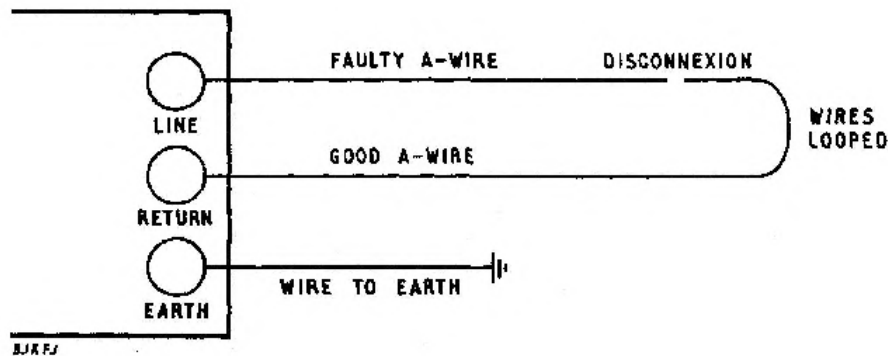

FIG 10 - DISCONNEXION ON ONE WIRE ONLY (NO SPARE PAIR AVAILABLE)
10.3 If no spare pair exists, single wire disconnexions can be found by looping the faulty wire to a good wire at the far end (see Fig 10). At the near end, connect the faulty wire to the LINE terminal, the good wire to the RETURN terminal, and an earth wire connexion to the EARTH terminal. Test as described in para 10.1 using the same calculation for distance to fault. This test is not so accurate as that described in para 10.1 so repeat the test at the far end and determine the mid-point between the two measurements.